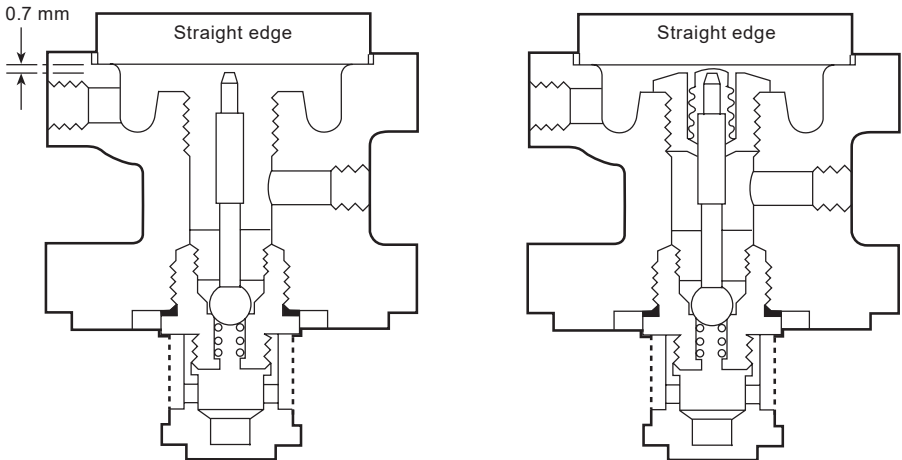

Fig. 6
2. Release the adjustment lock-nut (2) and turn the adjustment screw (1) anticlockwise until the spring is slack.
3. Slide out the 'C' washer (3) from underneath the lock-nut and remove the spring housing cover (12).
4. Remove the pressure adjustment spring (6) and the top spring plate (5).
5. Undo the 4 x M10 nuts and remove the spring housing (4), bottom spring plate (7) and remove the diaphragms (9) after noting which way they are installed.
6. Undo the union nut (27C) and pressure pipe union (29) and release the 6 mm stainless steel pipework.
7. Undo the 4 nuts (21) and remove the pilot valve housing (10) making sure that the main valve return spring (16) is still positioned correctly on top of the main valve (17).
8. Unscrew the pilot valve and seat unit (13) and the internal strainer screen (14A) by using a 27 mm A/F socket and also remove the plunger (11).
10. With the bellows seal still removed screw in the new pilot valve and seat unit (13) and tighten down to a torque of 115 N m.
11. Insert the pilot valve plunger (11) in from the top and check that there is a gap of 0.7 mm between the top of the plunger and a straight edge placed across the diaphragm location recess (see Figure 6).
13. Check with a straight edge again that, with the top of the bellows pressed lightly onto the top of the plunger, there is a slight clearance - a mere line of light, between the straight edge and the top of the bellows (see Figure 6).
14. Before reassembling the valve make sure that the gasket face on both the pilot valve block and the body are clean and that the main valve return spring (16) is positioned correctly on top of the main valve head.
15. Fit the new body gasket (15) and secure the pilot valve block assembly onto the body with the 4 nuts (21) tighten these nuts to the torque shown in Table 1 on page 18.
16. Refit the 6 mm stainless steel pipework and retighten the union nut (27C) and pressure pipe union (29) to ensure a steam tight seal.
17. Refit the two pilot diaphragms (9) making sure that they are fitted the same way round as they were removed and that all contact surfaces are clean. **If necessary two new diaphragms can be fitted.**
18. Place the bottom spring plate (7) in position and secure the spring housing with the 4 x M10 nuts (8) and tighten to a torque of 50 N m.
19. Replace the pressure adjustment spring (6) and the top spring plate (5) turning the adjustment screw (1) until it just locates on the top spring plate. Replace the spring housing cover (12) and the 'C' washer (3).